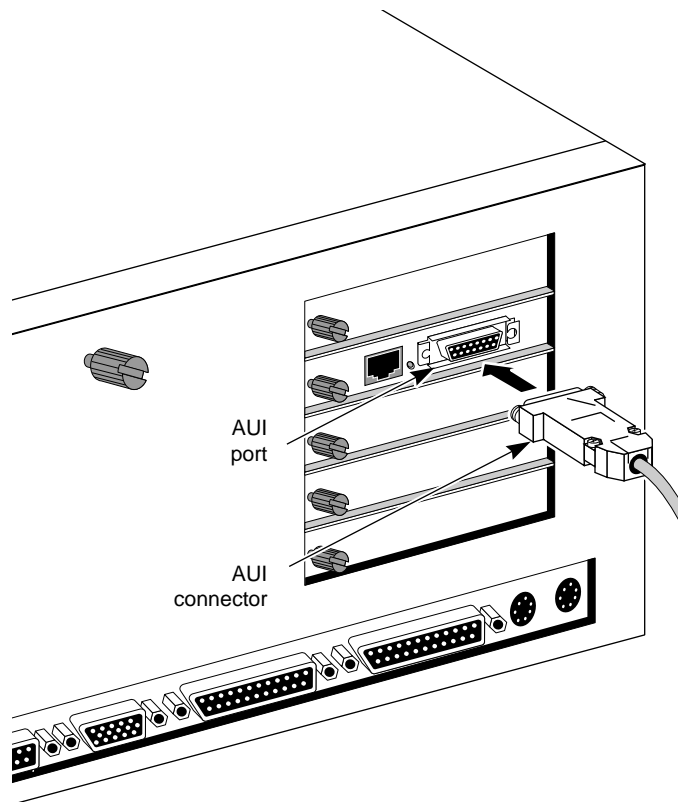

Figure 4-6. Connecting the AUI Cable
2. **Connect the AUI cable to the AUI connector on the adapter, as shown in Figure 4-6.**